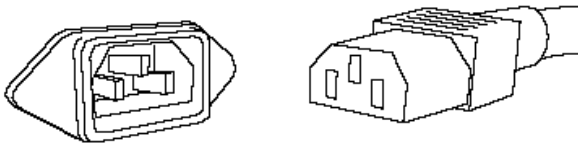

FIGURE 4
Connect the Detachable Power Cord to the Integrated 1 AC Power Cord Socket (H) (see Figure 4). Plug your Integrated 1 into the AC power source.